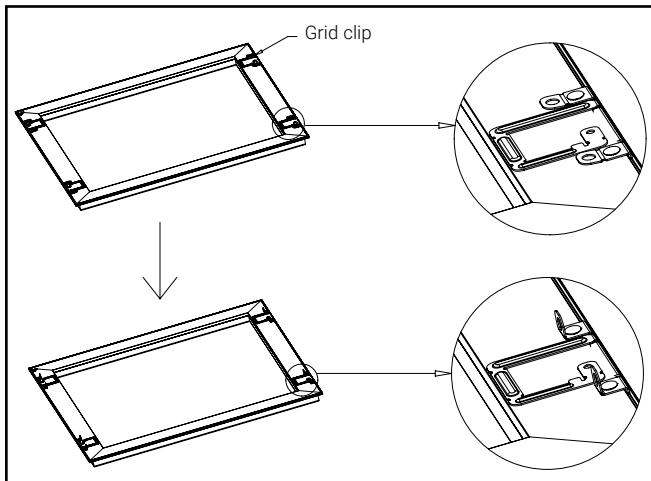

Figure 17.
7. Fold the grid clip. See Figure 17.